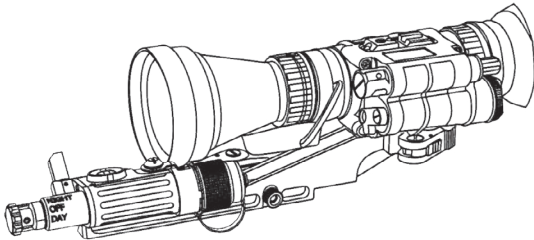

FIGURE 3-4. AIM-PRO-L ASSEMBLED WITH NYX-14 WITH 3X LENS
Figure 3-4 shows the fully-assembled AIM-PRO-L connected to the NYX-14 Night Vision Monocular with a 3X afocal lens.
2. To unlock the clamping device (located on top of the mount), see Figure 3-4. While pushing the lever holder (C) down, turn the lever (B) towards the arrow (forward).
3. Install the NVM on the mount so that the stop (A) is inserted into the transverse slot of the NVM rail.
4. Secure the NVM to the mount by turning the lever (B) to the locked position, as shown in Figure 3-4.